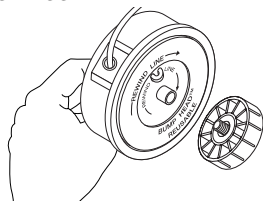

Fig. 12
1. Hold the outer spool with one hand and unscrew the Bump Knob™ **counterclockwise** (Fig. 12). Inspect the bolt inside the Bump Knob to make sure it moves freely. Replace the Bump Knob if damaged.
- Hold the outer spool with one hand and unscrew the bump knob counterclockwise (Fig. 12). Inspect the bolt inside the bump knob to make sure it moves freely. Replace the bump knob if damaged.